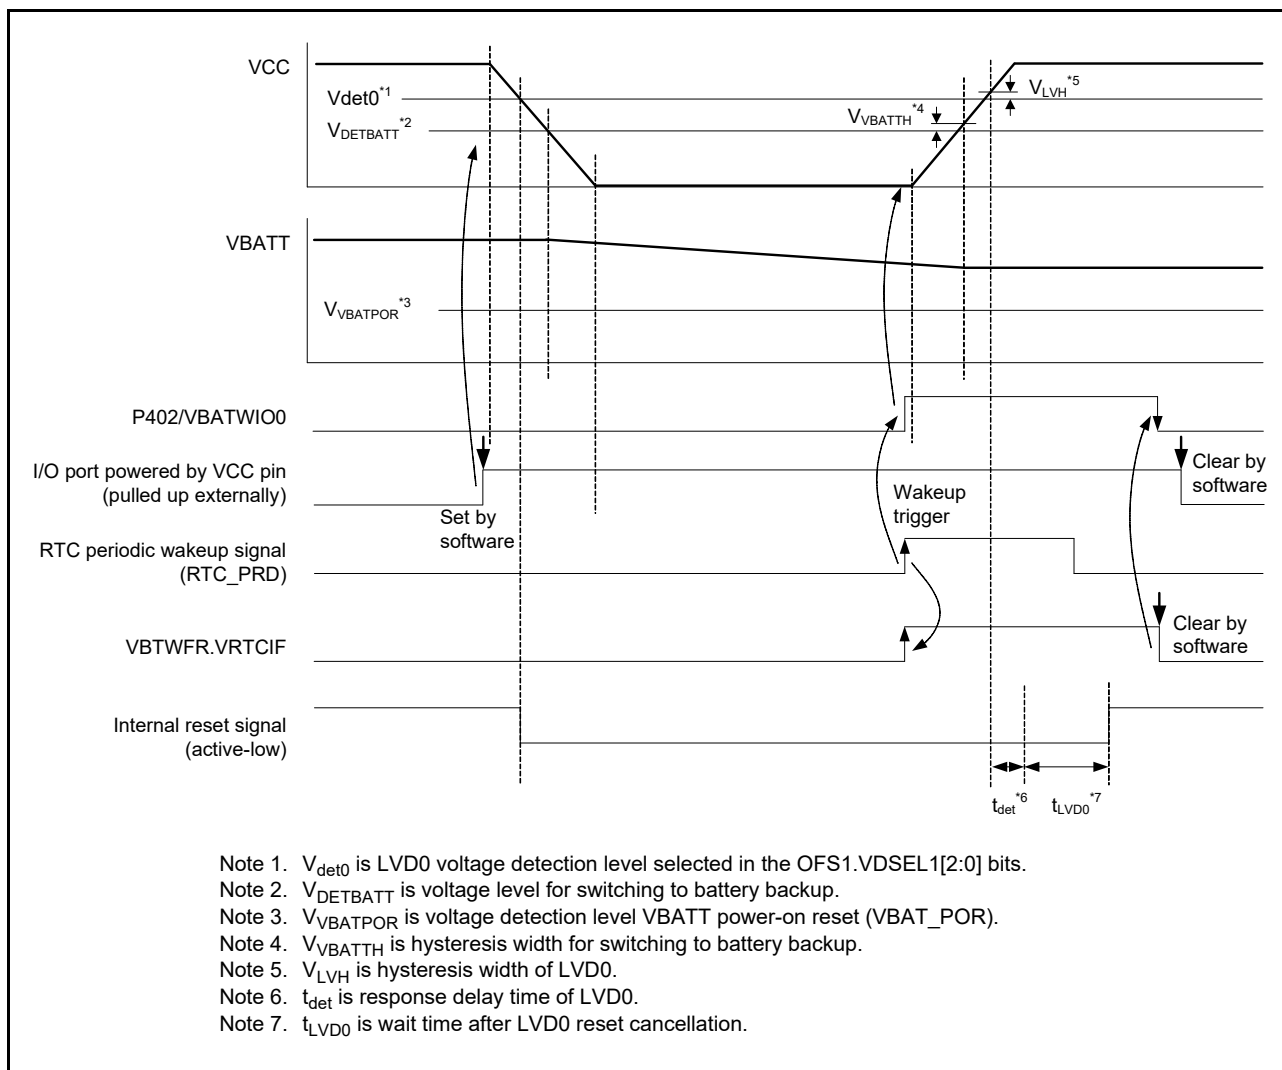

Figure 12.5 Timing diagram of VBATT wakeup function
3. Check the VBATT wakeup trigger source by reading the VBTWFR register. In the example of Figure 12.5, the VBTWFR.VRTCIF bit is set to 1.
4. Clear the corresponding bit in the VBTWFR register to 0, then the toggle output is started on the VBATWIO0 port. In the example of Figure 12.5, it is toggled from high to low on the VBATWIO0 port.